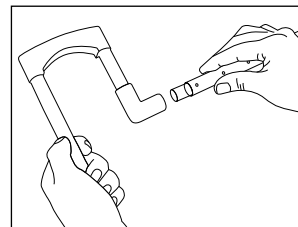
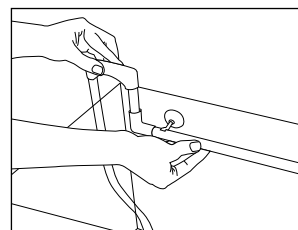

fig 4
fig 6
- Assemble the delivery unit and choose a position for it, if possible at a distance from the suction unit, in order to ensure effective recirculation (fig. 4).
- If you wish, you may apply the perforated bar to improve oxygenation at a 90° angle (fig. 4 -5), positioning it all in the aquarium at the surface of the water (fig. 6).